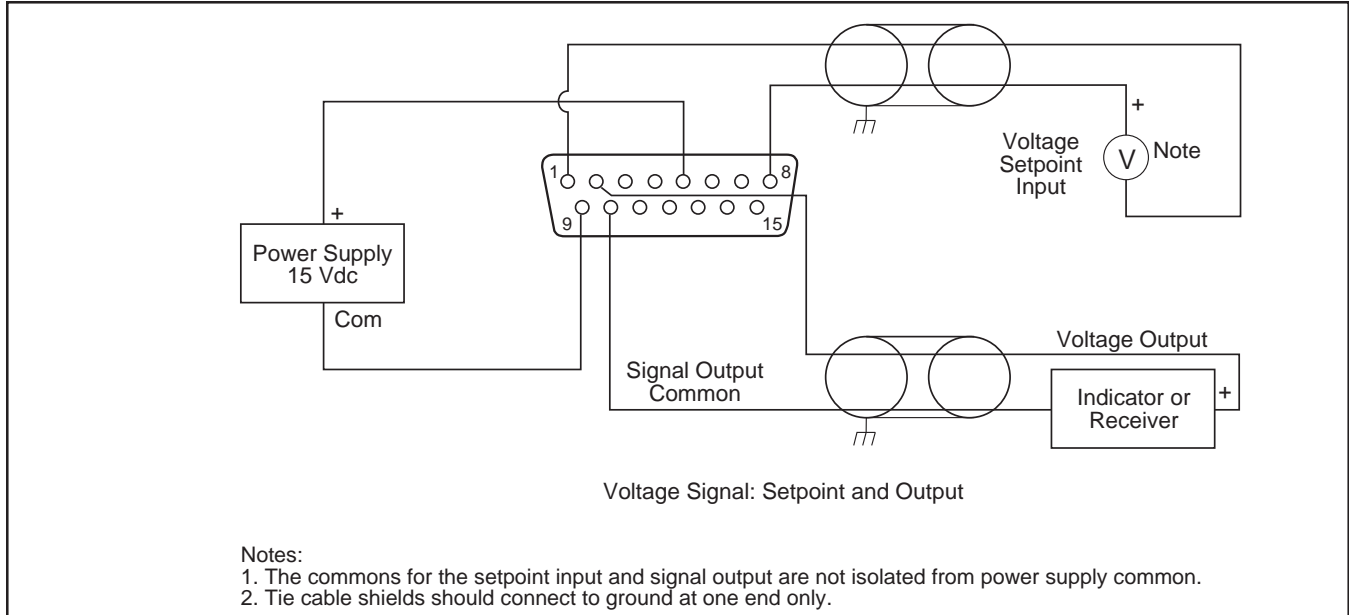

Figure 2-1 Common Electrical Connections, Analog I/O
- a. Voltage Signal: Connect the external setpoint signal to Terminal 8 and the external setpoint return to Terminal 1. Refer to Figure 2-1.